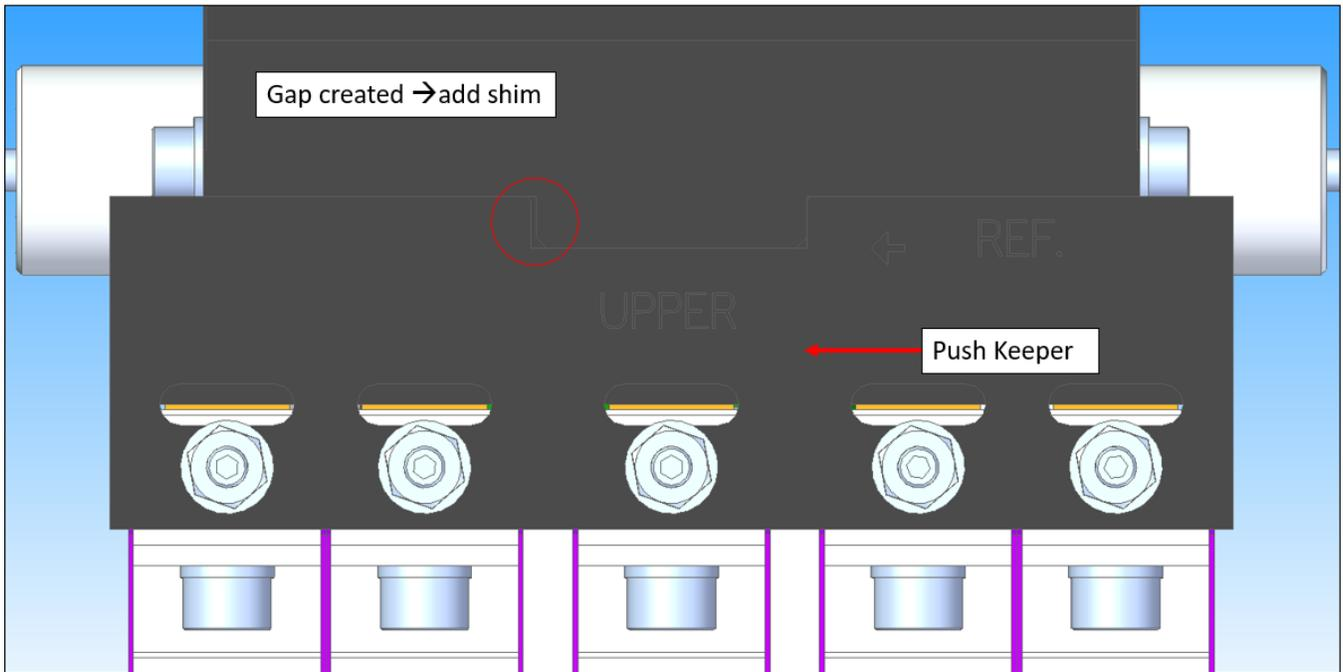
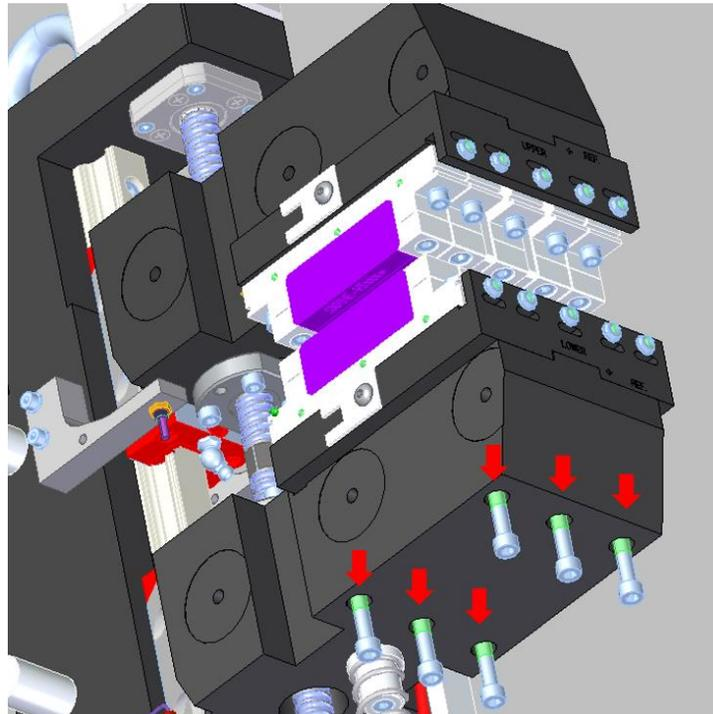

Figure 8: Pushing Keeper in same direction as Ref creates gap, which is filled in with shim
Figure 9: Six M6x40 screws - tighten with 8 Nm torque
- Use the plastic shim tool to insert shim on the side indicated in the image below; this fills the gap and sets the cassette into proper position. Torque the screws to 8 Nm. See Figure 8 and Figure 9.